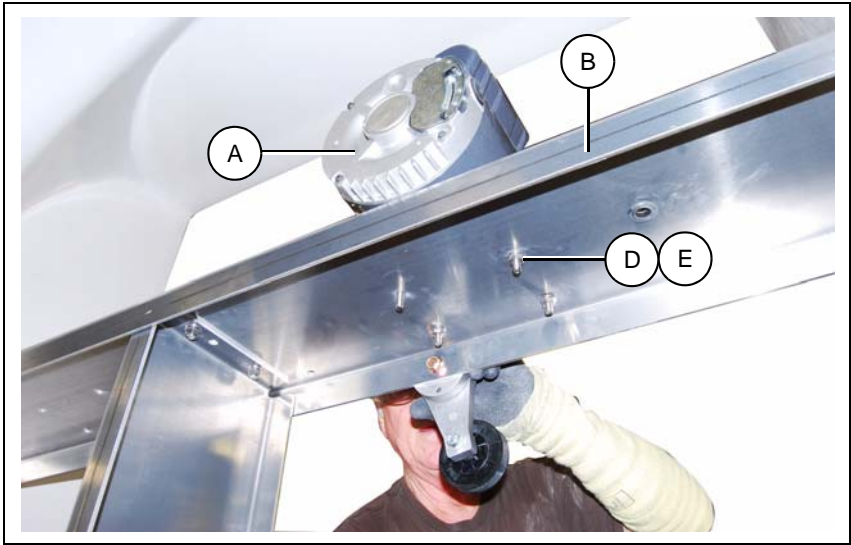

Figure 8L
- 2. Fasten the motor (A) to the bearing plate (B) using bolts (D) and nuts (E). (See Figure 8L.)